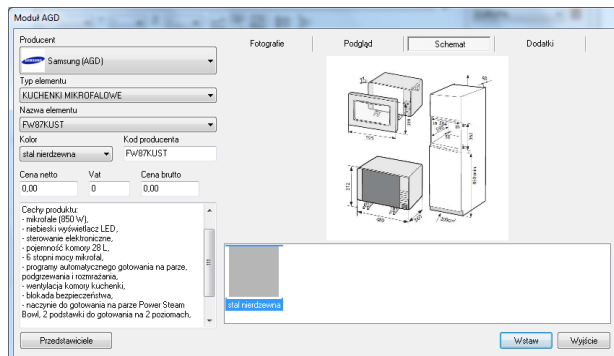

Fig. 252 – selection of built-in equipment
- Look for a specific in-built household appliance model for the previously inserted cabinet (Fig. 252).